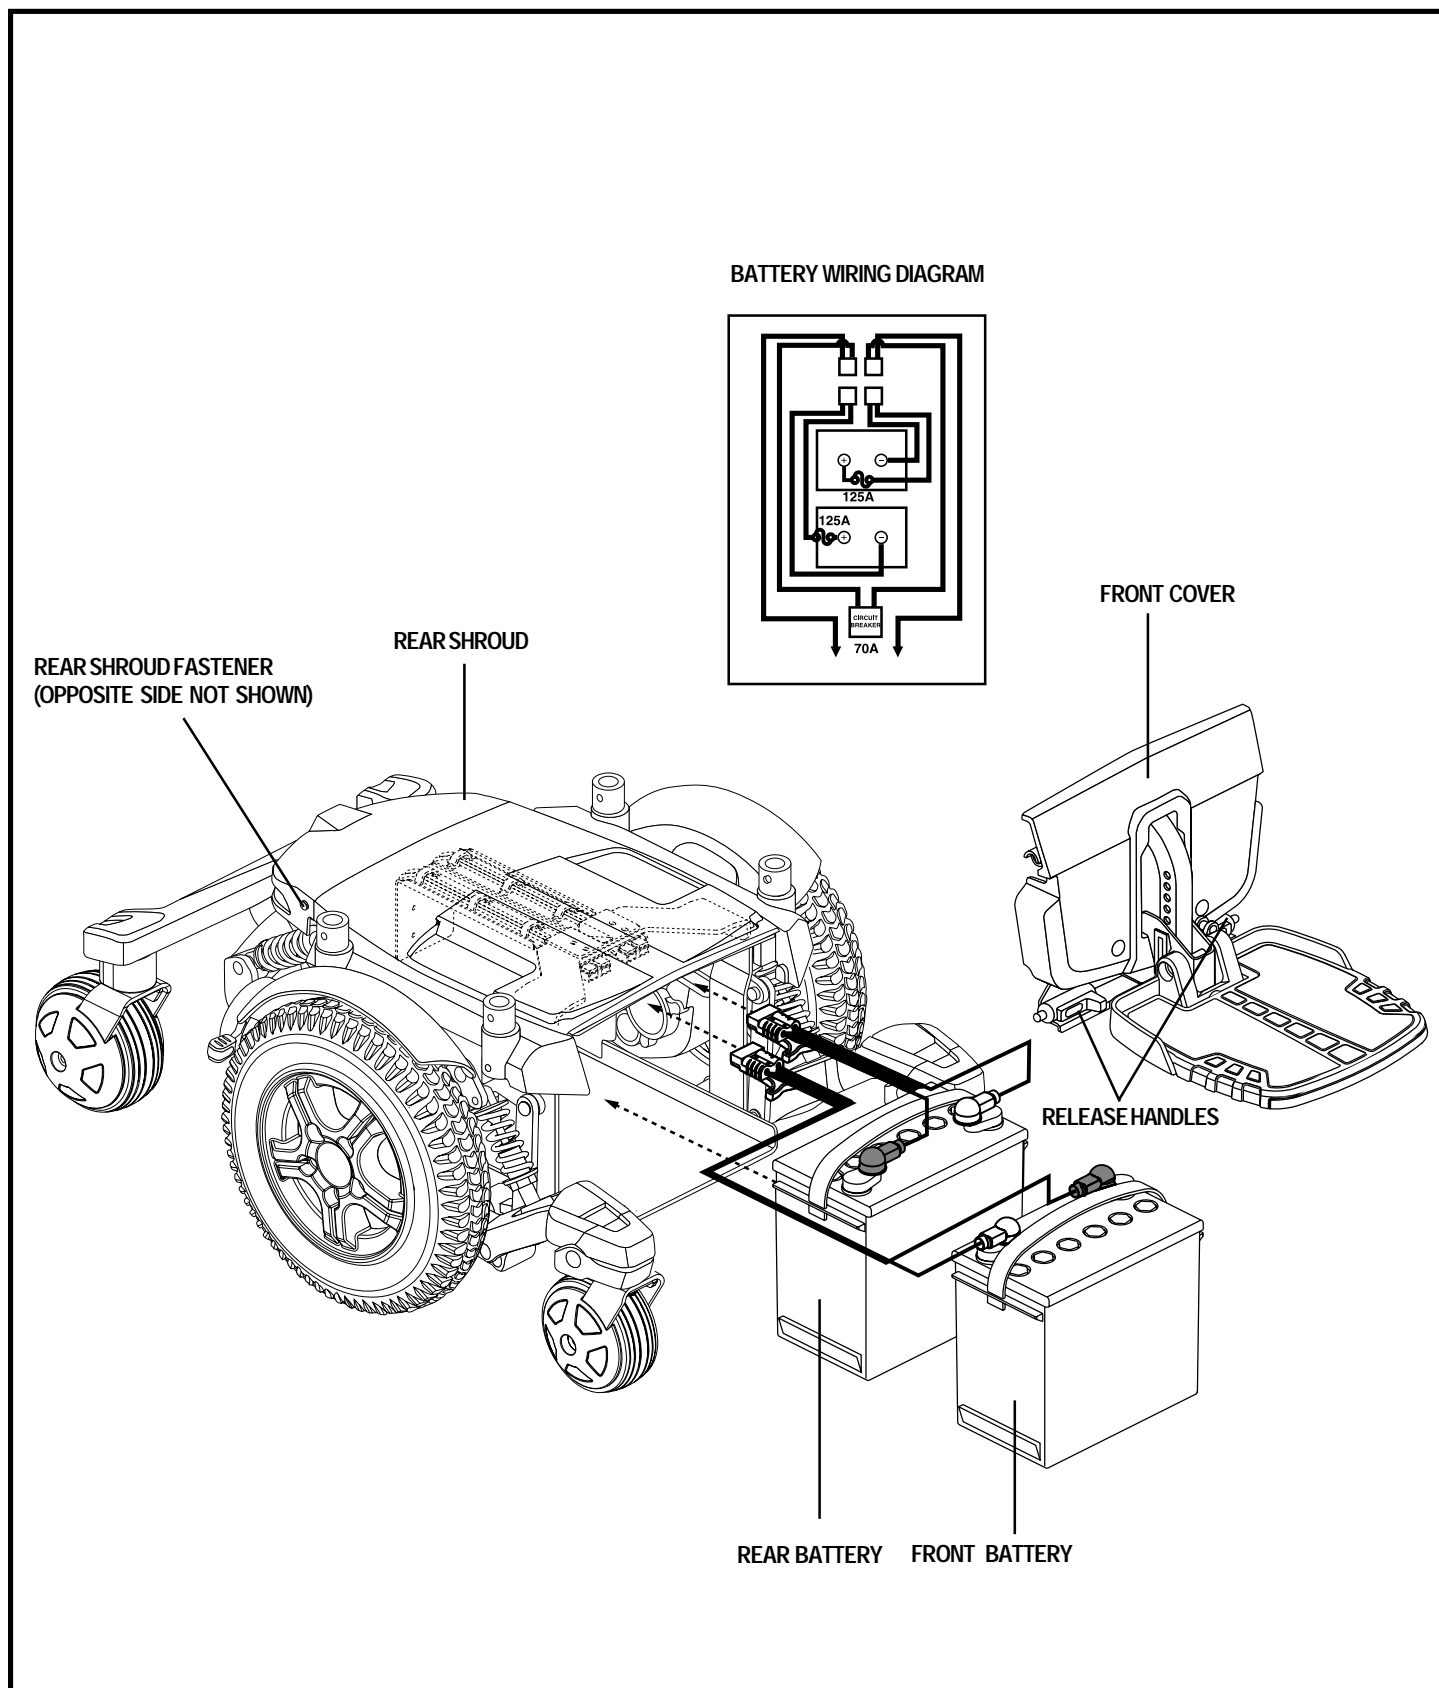

Figure 34. Battery Installation
3. Remove the foot platform by squeezing the release handles (see figure 34) and lifting the foot platform bracket up and away from the power base.
7. Connect the battery harness to the new front battery according to the battery wiring diagram. See figure 34.
8. Connect the battery harness to the new rear battery according to the battery wiring diagram. See figure 34.